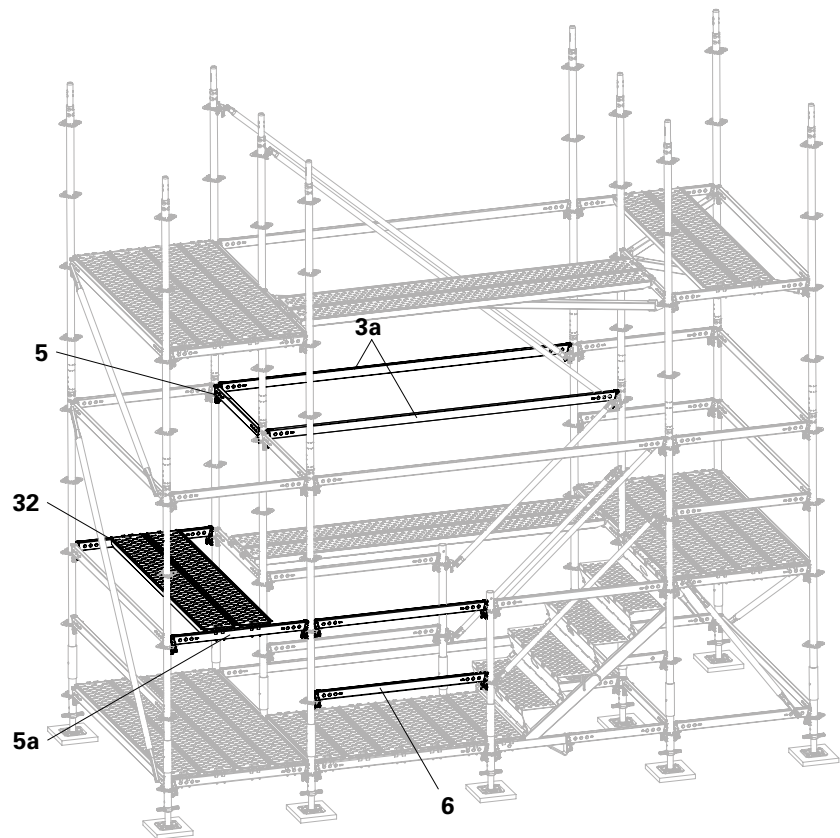

Fig. A8.12
6. If necessary, block off the sides of the access landing to the stairs with Horizontal Ledgers UH-2 125 (**6**). (Fig. A8.12)